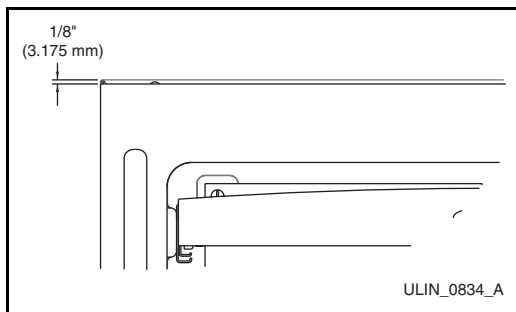

Figure 13
1. Compare the top edge of the door (opposite the hinges) to the top edge of the cabinet (**Figure 13**) and note the type (up or down) of adjustment needed.